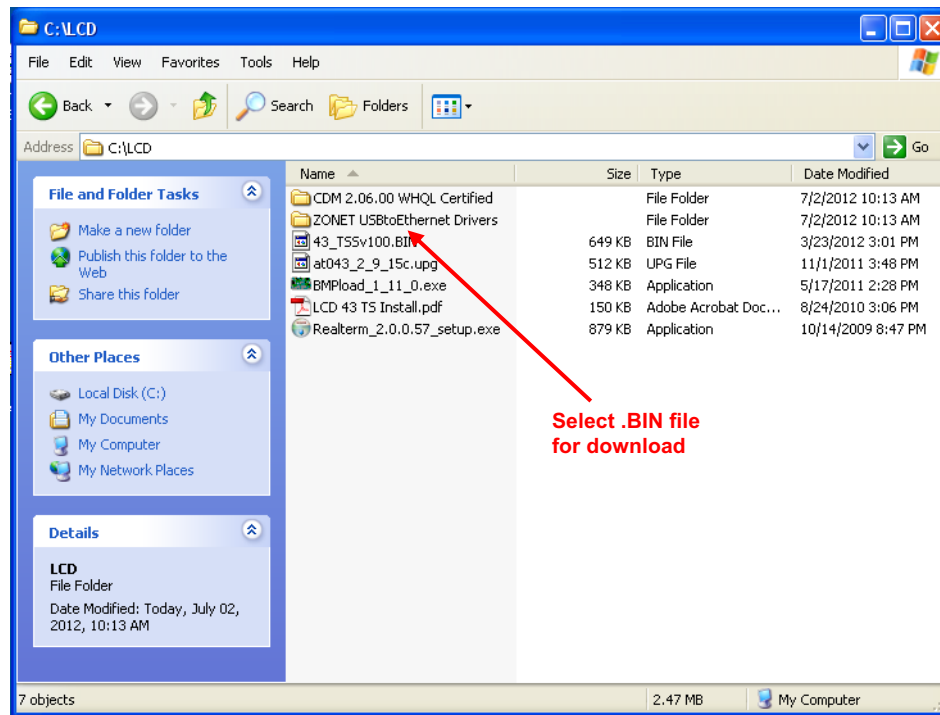

Figure 2-14
Step 9 – The latest 4.3” touch screen software file, which was downloaded in Step 1, is shown in Figure 2-14. Alternatively, contact the factory to obtain a copy of the latest software version. This software program name will always end in **.BIN**.